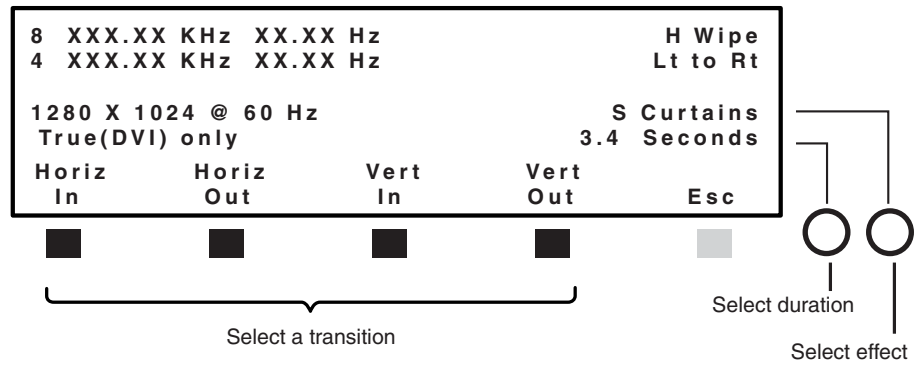

Figure 3-41 — Setting up the S curtains effect
- S curtains (soft curtains wipe, figure 3-41)